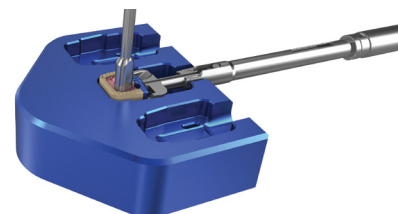

Figure 5
d. Insert bone graft into the Implant Construct and compress utilizing the Bone Graft Compactor, (37-IN-0072) (Figure 5).